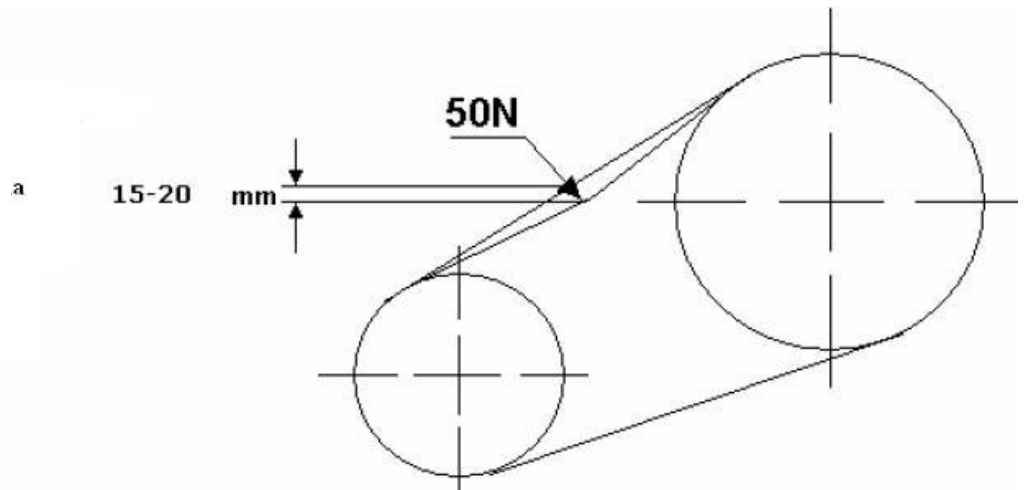
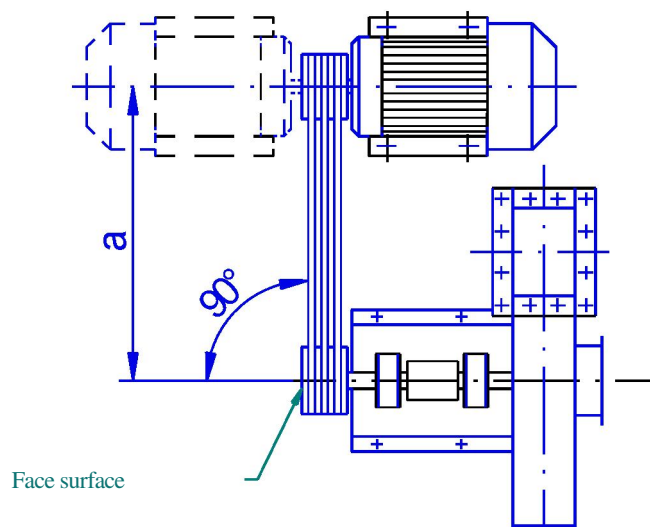

Figure 3. Measurement of belt tension
Figure 4. Clearances at belt drive.
- with the belt drive, check the correctness of alignment of the fan and electrical motor. Axes of fan's and electrical motor's shafts shall be parallel to each other, and grooves in pulleys must be aligned so as the V-belts are perpendicular to the axes of shafts. Allowable non-parallelism of grooved pulleys' faces shall not exceed 1 mm/m of distance between pulleys and the tolerance of mutual dislocation of pulleys' grooves shall not exceed 0.2 mm/m of the distance between pulleys – 'a' dimension (Fig. 4). Depending on the intensity of fan's operation, periodical inspection of V-belts is recommended (tension, surface condition, etc.) (Fig. 3). Such inspection shall be performed always before the first or each subsequent start-up of a fan after a prolonged downtime period. The first inspection of belts tension shall be carried out after a few days from the commissioning and then once a year, unless the conditions require otherwise. Tension of V-belts shall be compliant with generally available recommendations and standards of V-belts' producers.